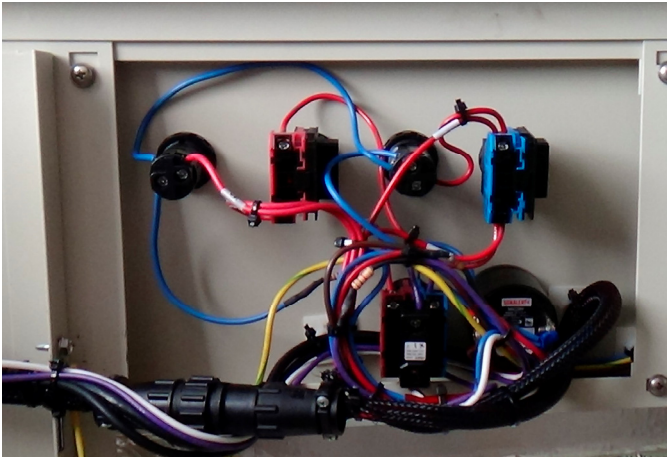

Figure 3-13 Control console (underside)
**Control console** – Main human interface for controlling power to the furnace. On top of furnace near entrance (Figure 3-13).